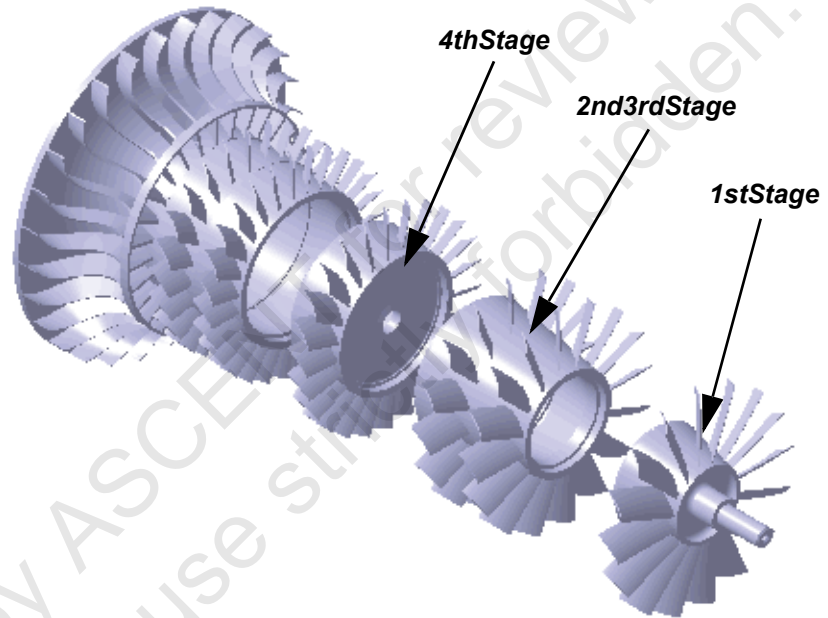

Figure 1–43
2. Use the compass to drag each component out to new locations, as shown in Figure 1–43.